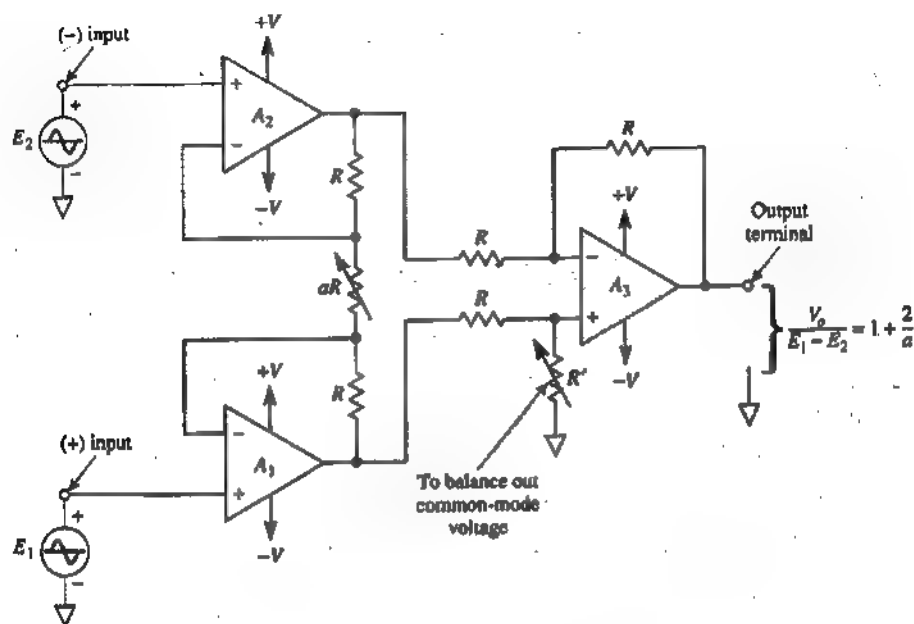

FIGURE 8-6 Basic instrumentation amplifier model.
The instrumentation amplifier (IA) is one of the most useful, precise, and versatile amplifiers available today. You will find at least one in every data acquisition unit. The basic IA is made from three op amps and seven resistors, as shown in Fig. 8-6. To simplify circuit analysis, note that the instrumentation amplifier is actually made by connecting a buffered amplifier [Fig. 8-5(b)] to a basic differential amplifier (Fig. 8-1). Op amp A_3 and its four equal resistors, R , form a differential amplifier with a gain of 1. Only the A_3 resistors have to be matched. The primed resistor, R' can be made variable to balance out any common-mode voltage, as shown in Fig. 8-2. Only *one* resistor, aR , is used to set the gain according to Eq. (8-6), repeated here for convenience:
In Fig. 8-6, $R = 25 \text{ k}\Omega$ and $aR = 50 \text{ }\Omega$. Calculate the voltage gain.
If aR is removed in Fig. 8-6 so that $aR = \infty$, what is the voltage gain?
In Fig. 8-6, the following voltages are applied to the inputs. Each voltage polarity is given with respect to ground. Assuming the gain of 1001 from Example 8-3, find V_o for (a) $E_1 = 5.001$ V and $E_2 = 5.002$ V; (b) $E_1 = 5.001$ V and $E_2 = 5.000$ V; (c) $E_1 = -1.001$ V, $E_2 = -1.002$ V.
In some signal conditioning applications, it is desirable to offset the output voltage to a reference level other than 0 V. (For example, it would be convenient to position a pen on a chart recorder or an oscilloscope trace at a level other than zero.) This can be done quite easily by adding a reference voltage in series with one resistor of the basic differential amplifier. Assume that E_1 and E_2 are set equal to 0 V in Fig. 8-6(a). The outputs of A_1 and A_2 will equal 0 V. Thus, we can show the inputs of the differential amplifier, A_3 , as 0 V in Fig. 8-7(a).
(a) Op amp 3 of the IA in Fig. 8-6 has its "normally grounded" terminal brought out; the new terminal is called "reference terminal" R
The versatility and performance of the instrumentation amplifier in Fig. 8-6 can be improved by breaking the negative feedback loop around op amp A_3 and bringing out three terminals. As shown in Fig. 8-8, these terminals are *output terminal O*, *sense terminal S*, and *reference terminal R*. If long wires or a current-boost transistor are required between the instrumentation amplifier and load, there will be voltage drops across the connecting wires. To eliminate these voltage drops, the sense terminal and reference terminal are wired *directly to the load*. Now, wire resistance is added equally to resistors in series with the sense and reference terminals to minimize any mismatch. Even more important, by sensing voltage at the load terminals and *not* at the amplifier's output terminal, feedback acts to hold load voltage constant. If only the basic differential amplifier is used, the out put voltage is found from Eq. (8-1) with $m = 1$. If the instrumentation amplifier is used, the output voltage is determined from Eq. (8-6).